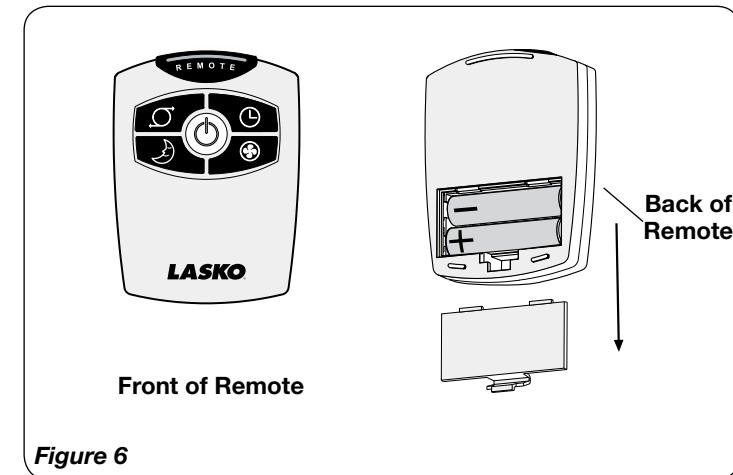

Figure 6
This Fan may be operated by the Manual Controls located on top of the unit (as shown in *Figure 5*) or by the Remote Control (shown in *Figure 6*).
REMOTE CONTROL (Figure 6)
1. Install batteries (not supplied) as shown in *Figure 6*. The battery is size “AAA”.